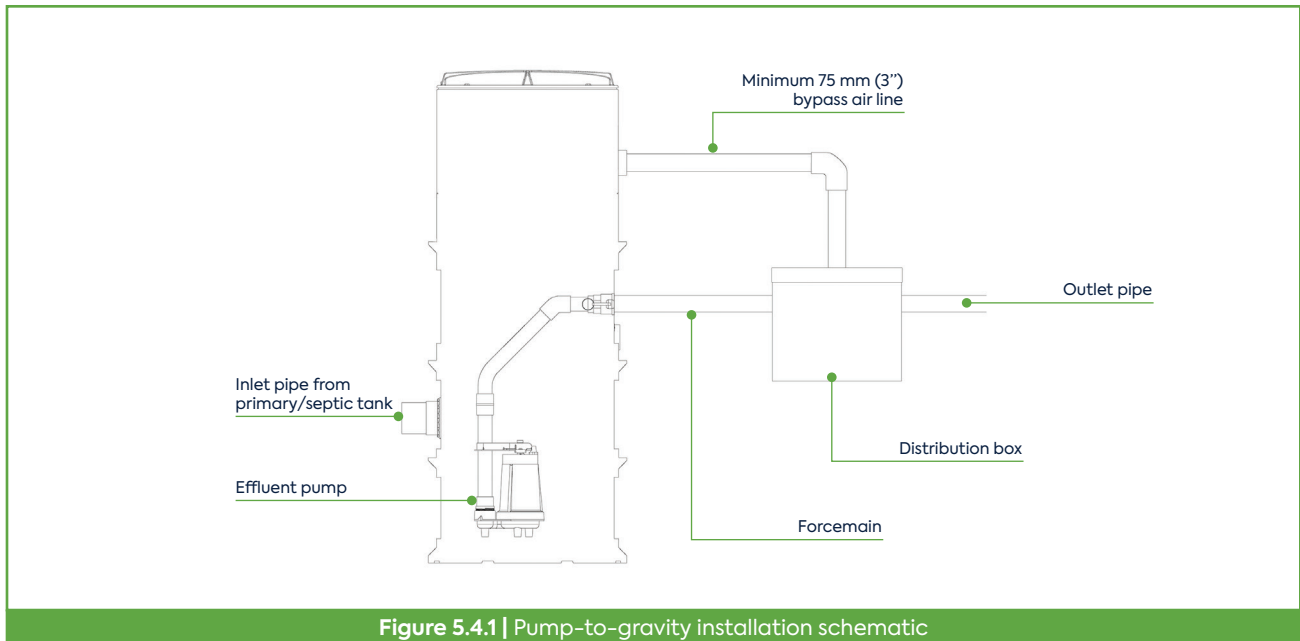

Figure 5.4.1 | Pump-to-gravity installation schematic
- In cases where a pumping station is used, it must have adequate ventilation to avoid buildup of harmful gases, air lock, and corrosion, and, most importantly, ensure proper aeration of the treatment system. This can be accomplished by using a separate vent pipe to the pump chamber, distribution box, or wherever practical, as shown in figure 5.4.1.